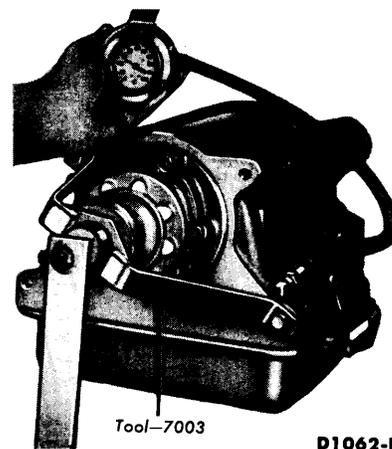

FIG. 32—Bench Testing Tool Installation
5. Install the pressure gauge (Tool 77820 or T57L-77820-A) as shown in Fig. 32.